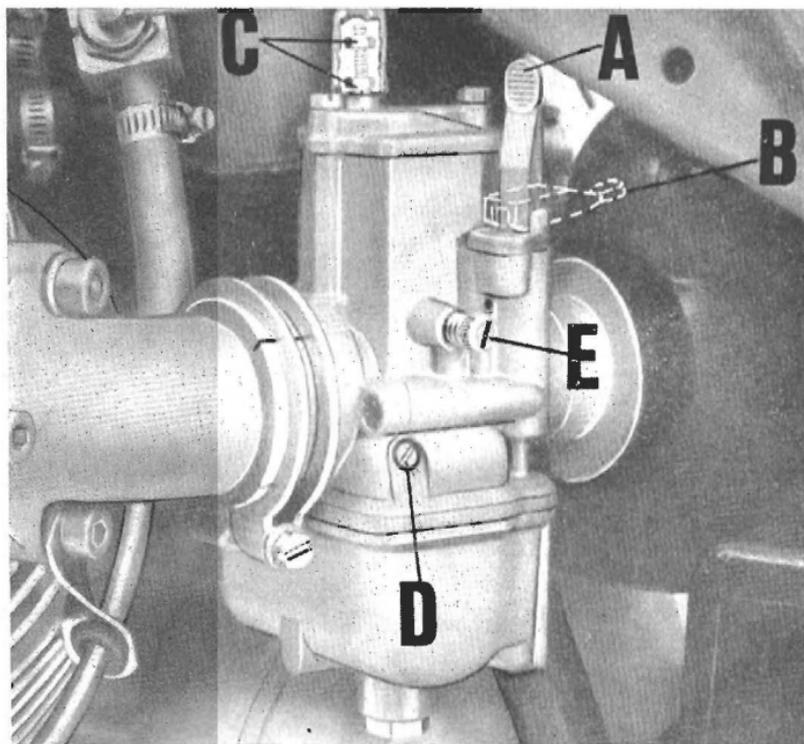

Fig. 16
CARBURETOR (See fig. 16)
The twist grip control lever is on the R/H side of the handlebar and the easy start lever is on each carburetor (See fig. 16).
Adjusting the carburation (See fig. 16)
- 1) With the filter box and rubber inlet manifold removed, check that both gas valves open at the same time. This is done by turning the throttle grip and at the same time feeling with your fingers on the carburetor slides if these open simultaneously by the same amount. Should one valve open before the other, correct by setting screw C (fig. 16) in the position where by turning the throttle both valves open simultaneously.
- 2) Adjust the idling speed by acting on screw D (fig. 16). Screwing this in reduces the fuel flow and viceversa increases it. To